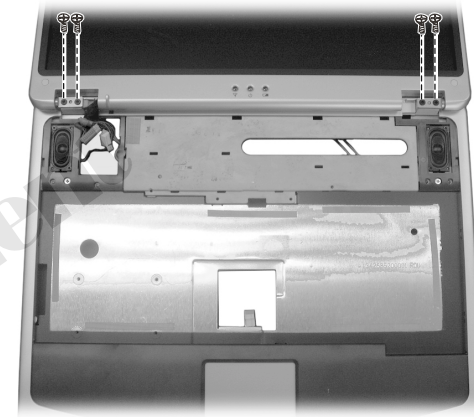

Figure 2-20 Free the LCD assembly
7. Remove the four screws, then free the LCD assembly. (Figure 2-20)